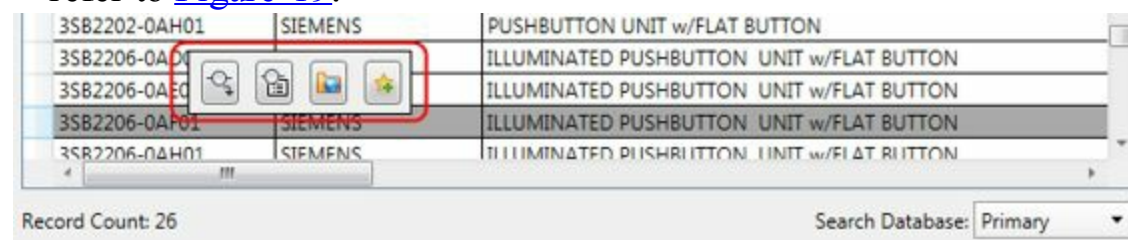

Figure-19. Toolbar in Catalog Browser
- Click on the component that you want to include in your drawing, a small toolbar will be displayed; refer to Figure-19.